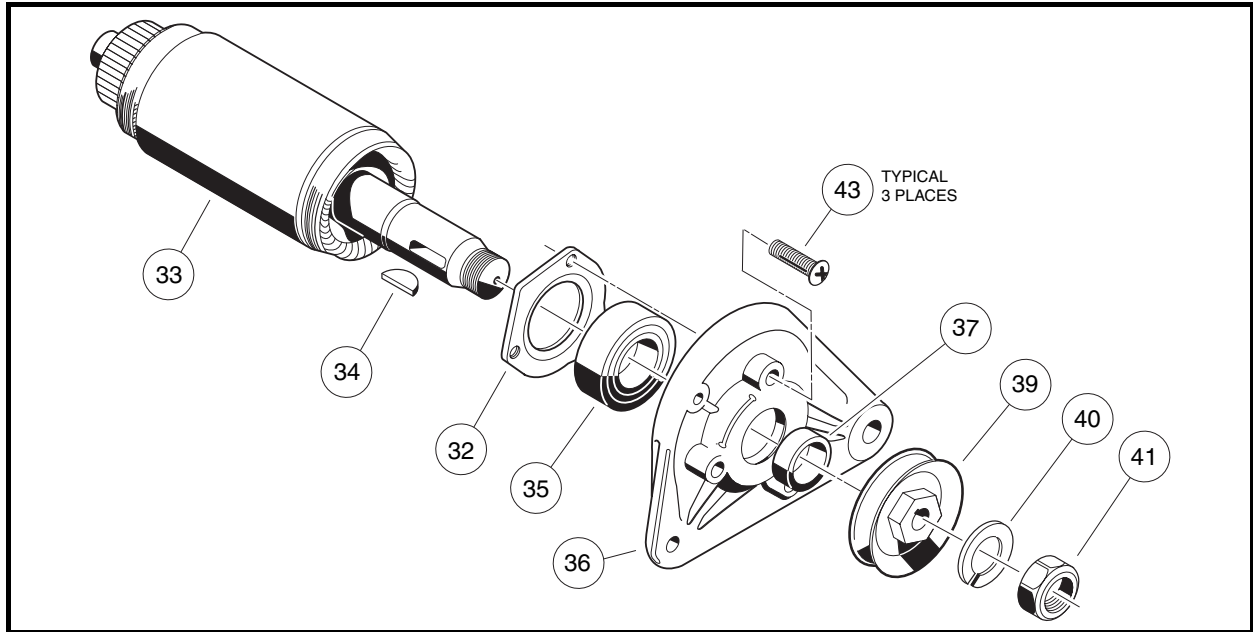

Figure 12-7 Armature and Output End Cover Assembly
2. Remove nut (41), lockwasher (40), pulley (39), shaft key (34), spacer (37) and bearing retainer screws (43) and separate armature (33) from output end cover (36) (**Figure 12-7, Page 12-5**).
3. Slide the bearing retainer (32) off of the output end of the shaft (**Figure 12-7, Page 12-5**).
4. Slide the bearing retainer onto the output end of the armature shaft (33) so that it will hold the outside of the bearing (35) only (**Figure 12-7, Page 12-5**).
5. Press a new ball bearing (35) onto the output end of the armature (**Figure 12-7, Page 12-5**). Press a new ball bearing onto the commutator end of the armature shaft. **See following CAUTION.**
6. Install the output end cover (36) onto the armature. Secure the bearing retainer (32) to the cover and tighten the screws (43) to 39 in-lb (4.4 N·m) (**Figure 12-7, Page 12-5**).
11. Slide the spacer (37) onto the end of the shaft. Insert the shaft key (34) into the shaft. Install the belt pulley (39) onto the shaft and install the lockwasher (40) and M14 nut (41) and tighten the nut to 28 ft-lb (38 N·m) (**Figure 12-7, Page 12-5**).